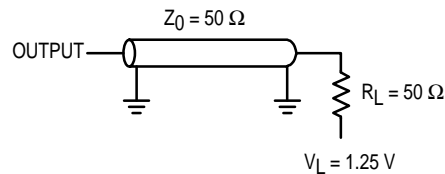

Figure 2. AC Test Load
Input Pulse Levels 0 to 2.5 V Output Load See Figure 2 Unless Otherwise Noted
4. Tested per AC Test Load (Figure 2).
5. Measured at ± 200 mV from steady state. Tested per High-Z Test Load (Figure 2).